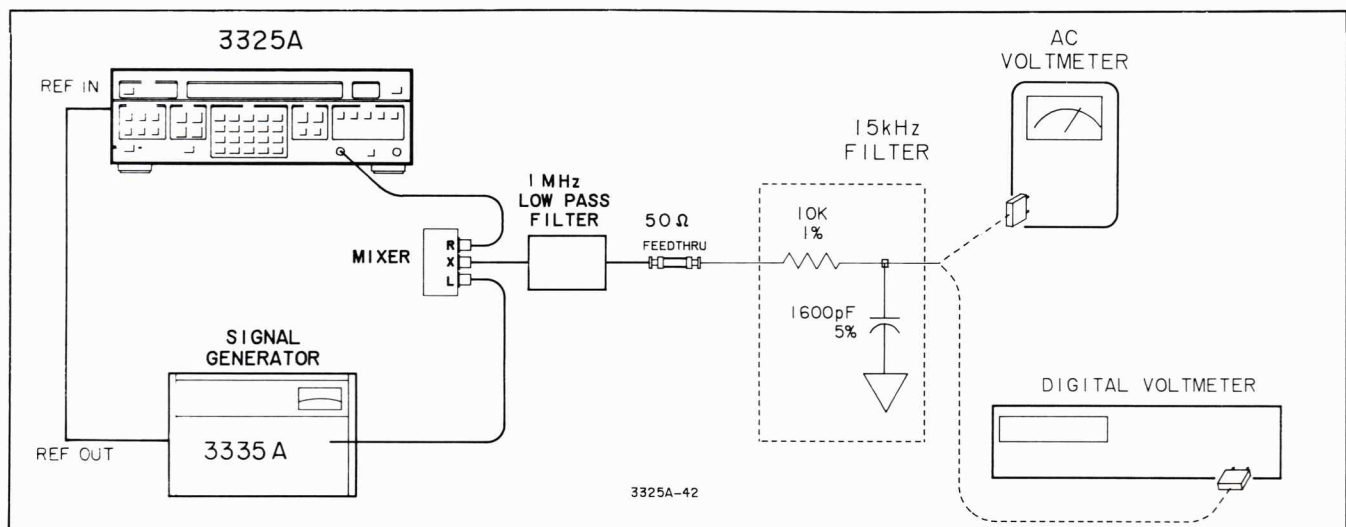

Figure 4-3. Integrated Phase Noise Test
Capacitor: $1600\text{ pF} \pm 5\%$ (-hp- Part No. 0160-2223) See Figure 4-3
a. Connect the equipment as shown in Figure 4-3, connecting the 15kHz noise equivalent filter output to the ac voltmeter. Phase lock the 3325A and the signal generator together.